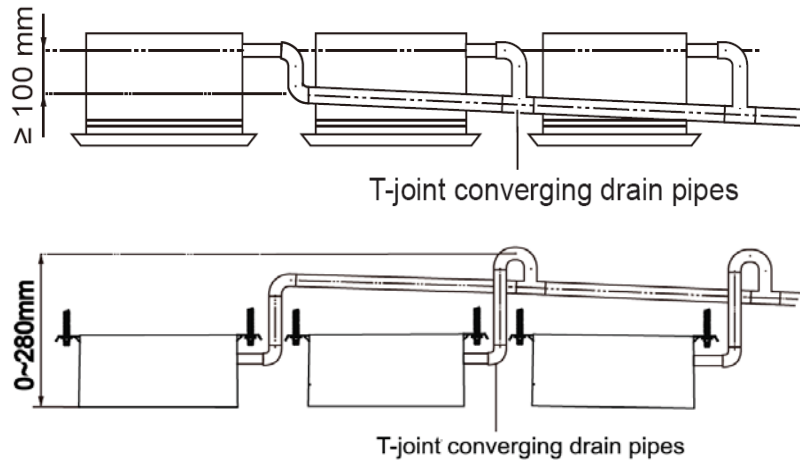

Figure 3-1-38
- (3) When unifying multiple drain pipes, install the pipes as Figure 3-1-38.